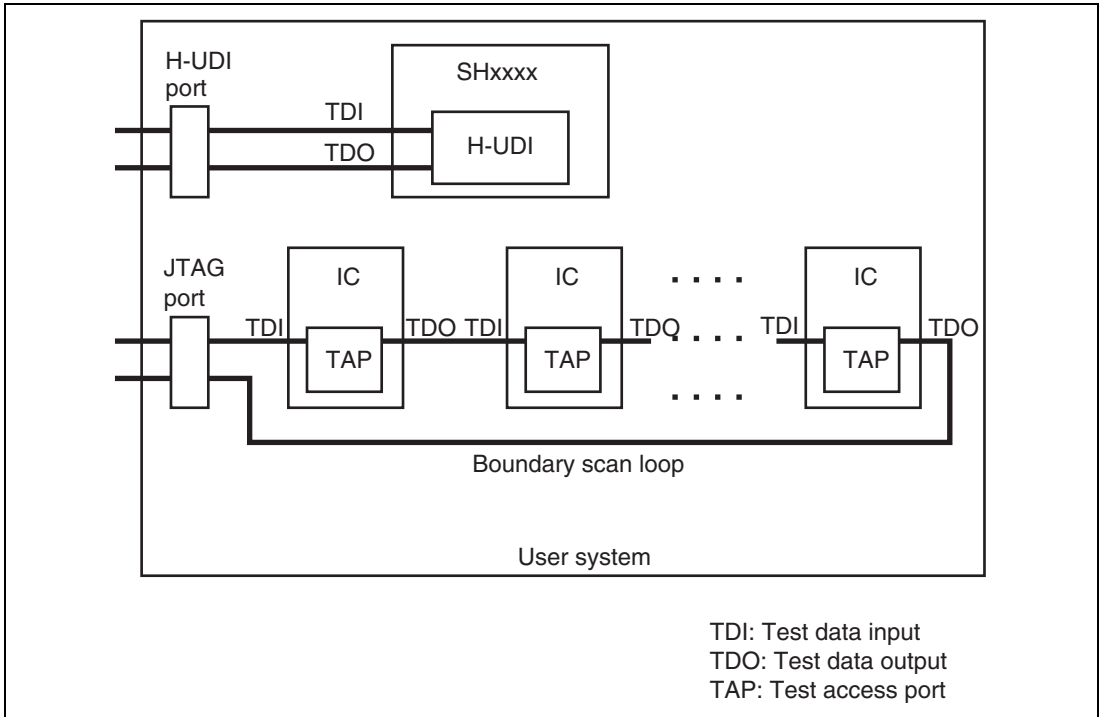

Figure 2.16 User System Example
- When developing user systems, do not connect the TDI and TDO signals of the device to the boundary scan loop, or separate them by using a switch (figure 2.16).